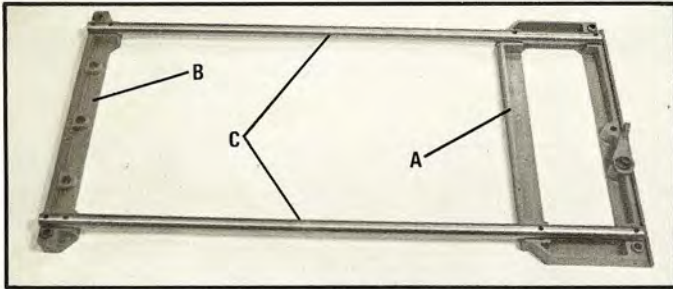

Fig. 17
2. Assemble table (A) Fig. 17, support (B) and rails (C) as shown.